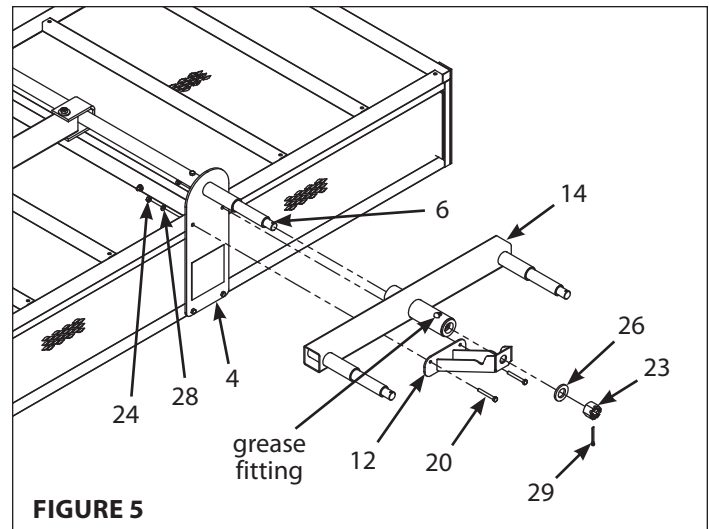

FIGURE 5
8. Slide the tracking beams (14) onto the axle spindles (6). The axles of the tracking beams should be facing outwards. **SEE FIGURE 5**
9. Slide the tracking beam braces (12) over the axle spindles (6) and secure to the trailer frame and axle mounting plates (4) with four M6x50mm bolts (20), M6 steel washers (28) and M6 locknuts (24). The grease fittings of the tracking beams must be facing away from the braces for access. **SEE FIGURE 5**
10. Secure the tracking beams (14) and tracking beam braces (12) to the axle assembly with two 20mm castle nuts (23) and 20mm steel washers (26). Tighten the castle nuts until snug and then back off slightly to allow free movement of the tracking beams and alignment of the cotter pins (29). **SEE FIGURE 5**
11. Insert the cotter pins (29) through the axle spindles (6) and castle nuts (23) so that the head of the cotter pins are seated in the castle nuts. Using a pair of pliers, bend the prongs around the other side of the castle nuts so that the cotter pins cannot fall out. **SEE FIGURE 5**